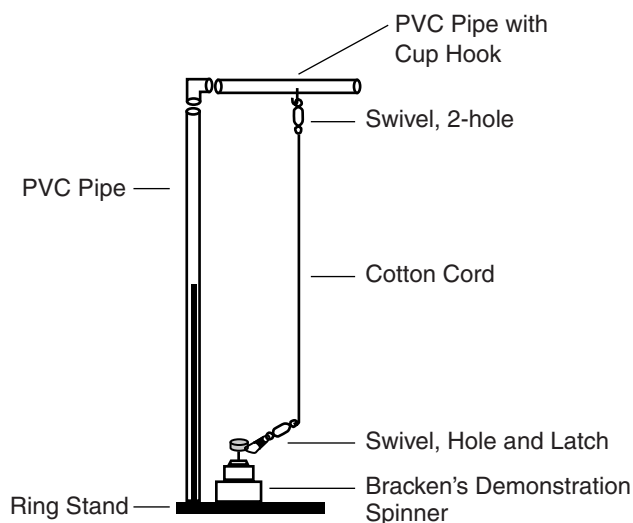

Figure 2. Setup
6. Attach the PVC elbow to the two PVC pieces as shown in Figure 2.
7. Place the 2-hole swivel onto the cup hook (see Figure 2).